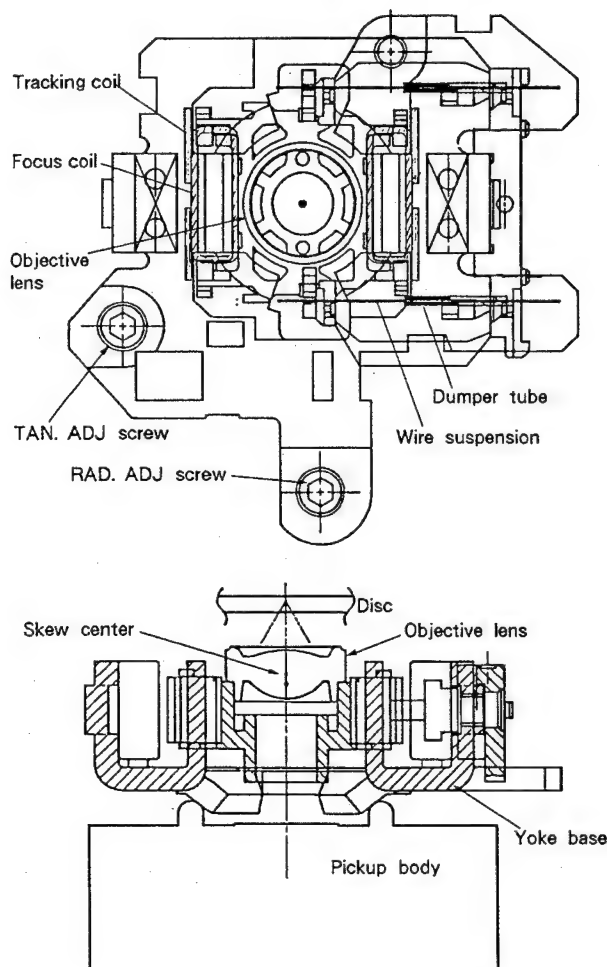

Fig. 9-2 Structure of actuator
(4) Actuator of the wire-suspension system (Fig. 9-2)
(6) Clean playback by skew adjustment in both tangential and radial directions (Fig. 9-2)